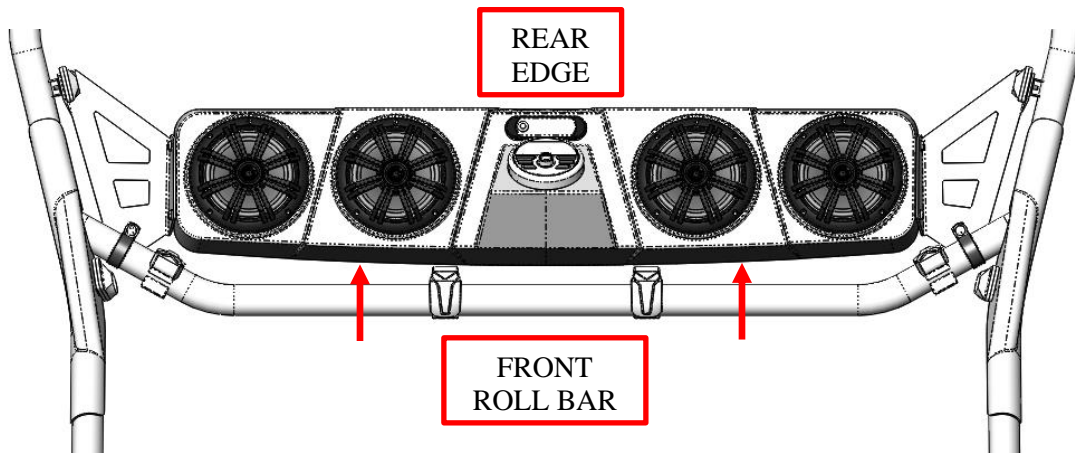

**Figure 6:** Install the 1/4"-20 bolts and washers to mount the Audio Mini to the brackets.
5. Using an assistant, hang the *Audio Mini* off-road sound system on the brackets using the supplied 1/4"-20 bolts and washers (loosely tightened). **Note: The sound system weighs up to 25 lbs. Since you will have to lift and bolt each end, it is helpful to have an assistant for this step.** See Figure 6 and Figure 7.